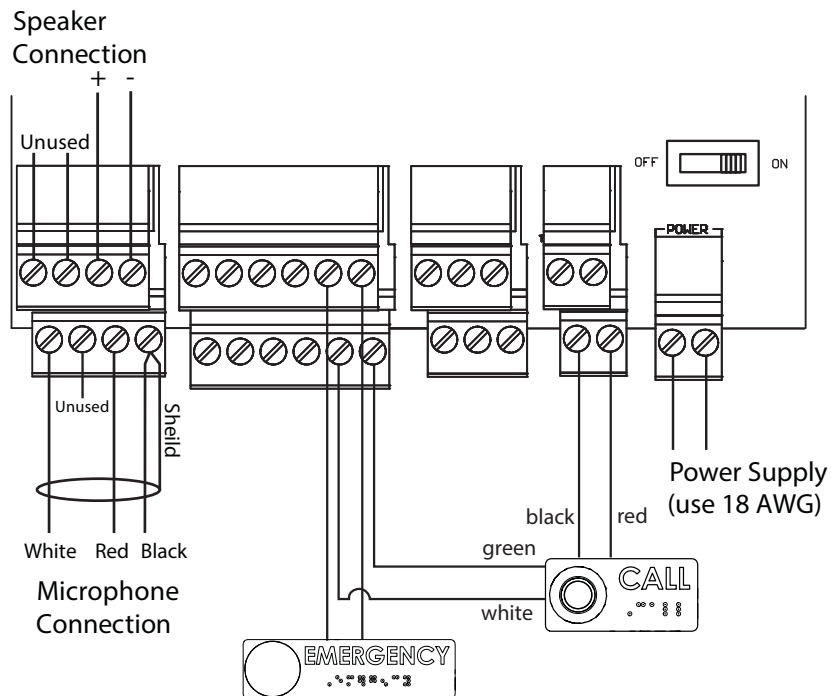

Figure 4 Call button and Emergency button connections on the Emergency Phone
3. If you have TX3-EMER-200KS or TX3-EMER-1S, connect the call button and emergency button as shown in Figure 4.